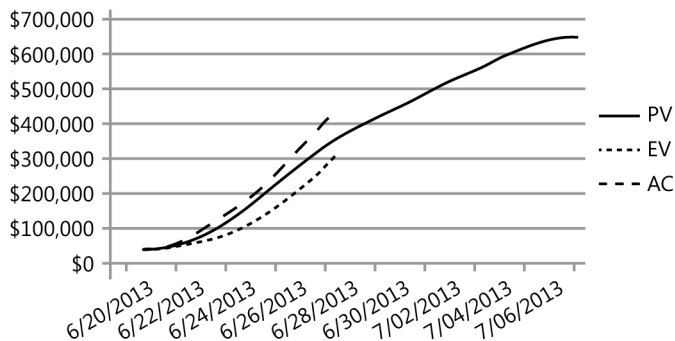

FIGURE 5-5 This graph shows a record of project planned value, earned value, and actual cost.
- **Earned value (EV)** The value of the work that has been completed. This is not the actual cost of the work that has been completed but rather the original ascribed value from your approved cost baseline for the value of the work.
- **Actual cost (AC)** The actual realized cost you incurred for the work that you have done to date. You will be able to get a record of this from your accounts system.
Figure 5-5 shows the budget at completion (BAC), planned value (PV), earned value (EV), and actual cost (AC) on a single graph. Incidentally, it shows a project in trouble in terms of both time and cost because the actual cost is above the planned value, and the earned value is less than the planned value.